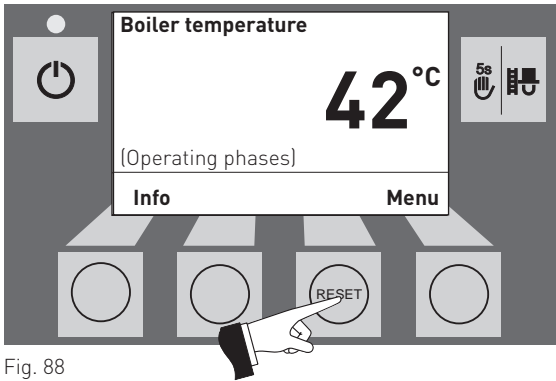

Fig. 88
- if the „RESET“ button is pressed for 5 seconds on a standard display – Fig. 88;